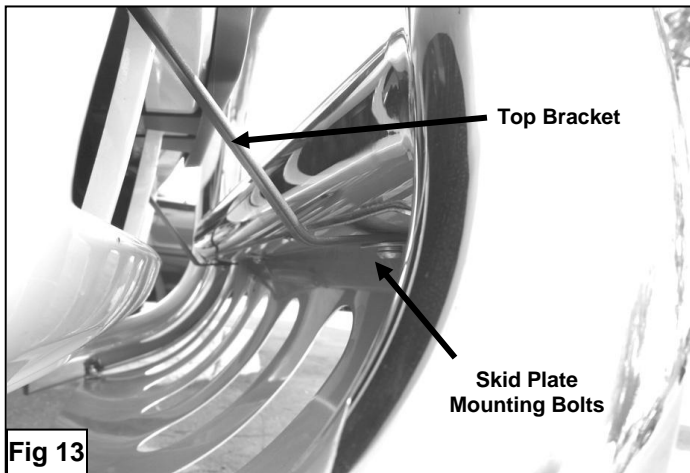

Fig 13
17. Attach Top Bracket to Bull Bar using the bolts removed in step 11 (**Figure 13**).